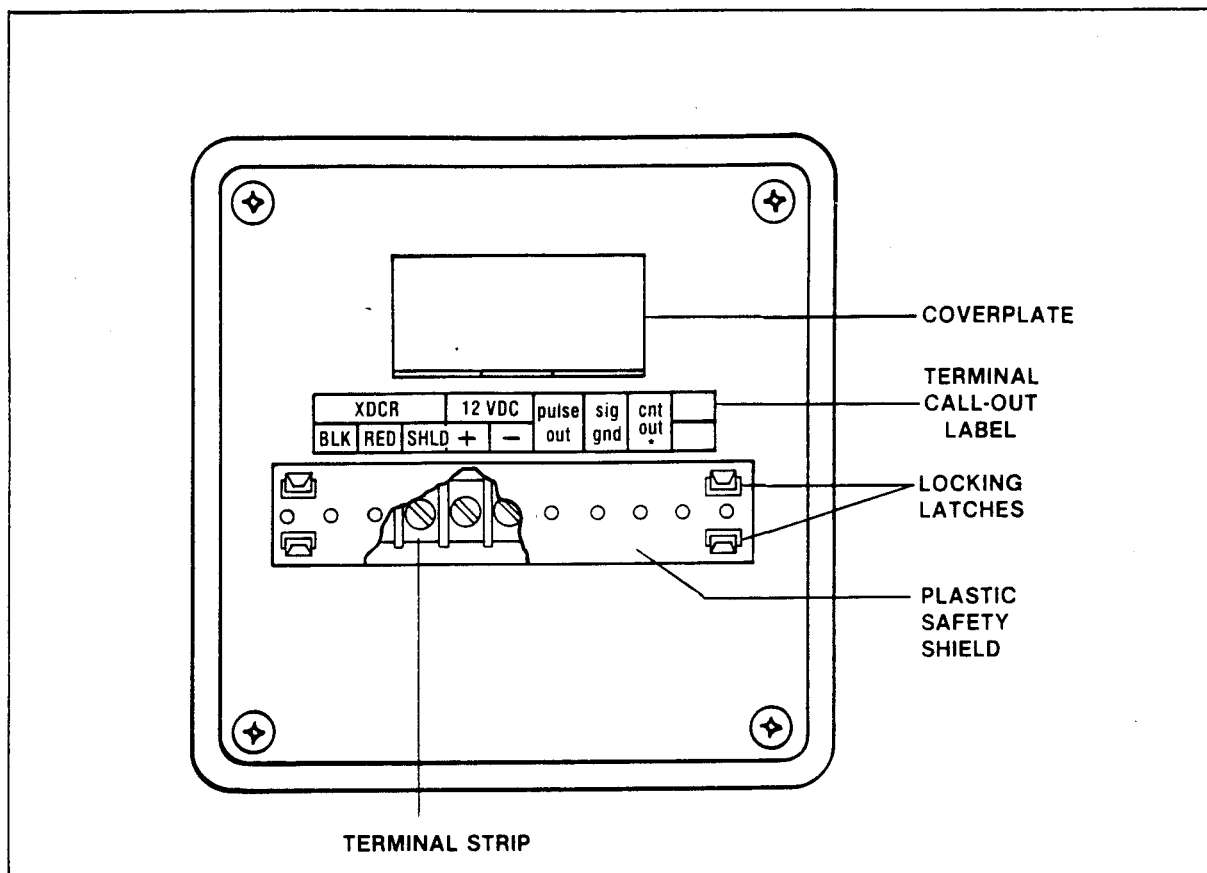
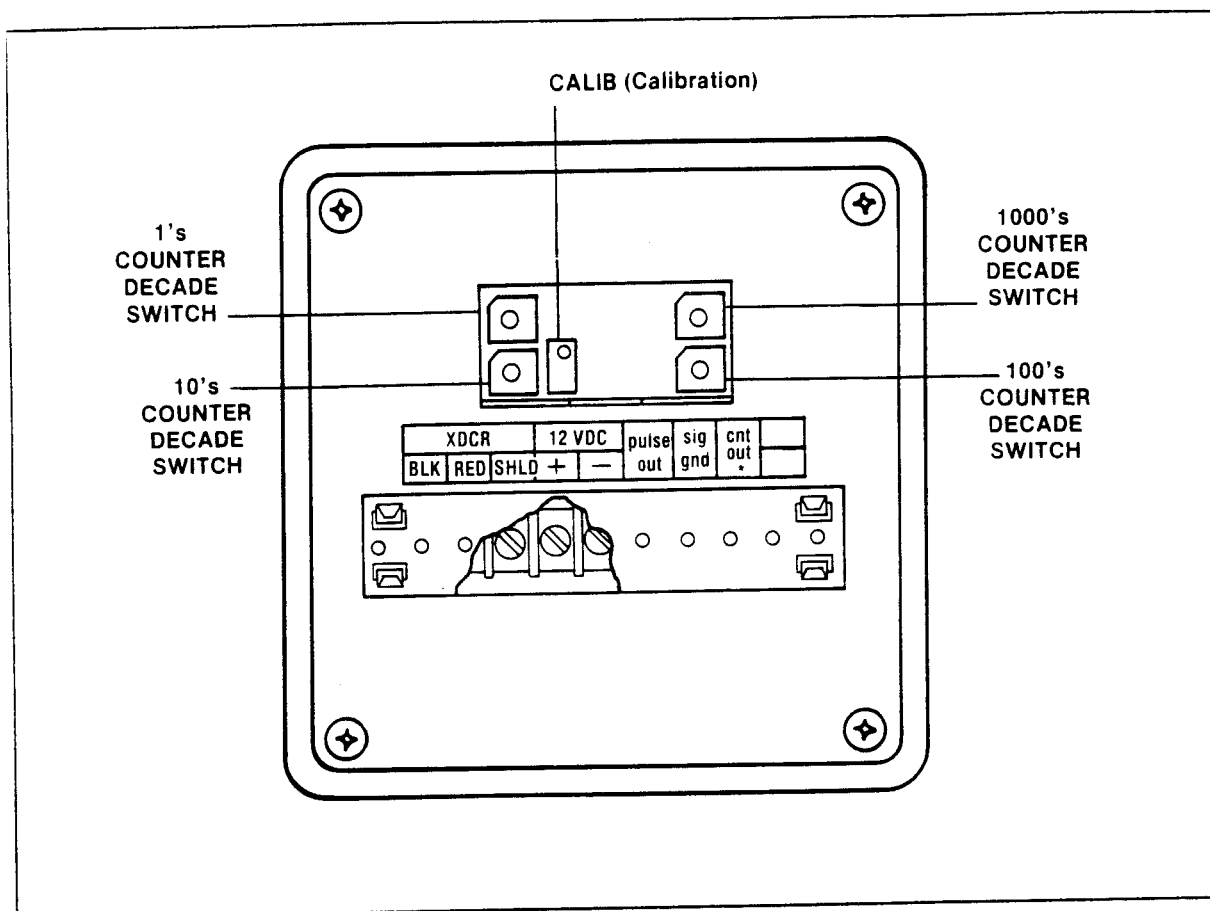

Figure 3. Rear view of MK 575 with coverplate in place over calibration and counter controls.
Figure 6. Rear view of MK 575/575R with calibration and counter controls exposed.
6. Remove the plastic safety shield from the rear terminal strip by pinching inward each pair of plastic locking latches. Then connect the Flosensor output cable to the appropriate XDCR (transducer) terminals on the rear of the indicator case (see Figures 3 and 4).
The input module of the MK 575 conditions the Flosensor signal. The processor circuitry then forms the conditioned input signal into square-wave-shaped, precision width, noise-free positive pulses. The pulses are also separately amplified and are available to drive external instrumentation, including other Signet indicators and controllers, at the PULSE OUT terminal on the MK 575's rear panel (see Figure 3). Internally, these pulses are input to a frequency-to-current converter. This circuitry employs a constant-current generator where the pulse waveforms are converted to a current in a closed-loop system by charging a capacitor, with this charge being directly proportional to the frequency. This current drives the Flometer's meter.
The pulse signal is connected to a presettable divide-by N counter circuit. The counter divides the pulse frequency by a preset number. This number, N, is the number dialed into the rear-panel rotary decade switches, plus one (see Figure 6). For example, if 378 is dialed into the switches, the counter will divide by 379. The divider has a division range of 2 to 10000, corresponding to switch settings from 0001 to 9999. The counter also provides an output to drive an external counter, pump, or other equipment at the CNT OUT\* terminal on the rear of the MK 575 (see Figure 3).
Recalibrating the counter circuitry can be accomplished in the field simply by resetting the decade rotary switches on the rear of the MK 575 case (see Figure 6) using the appropriate K factor (pulses/gallon or pulses/liter) from Table 2 in the following equation: